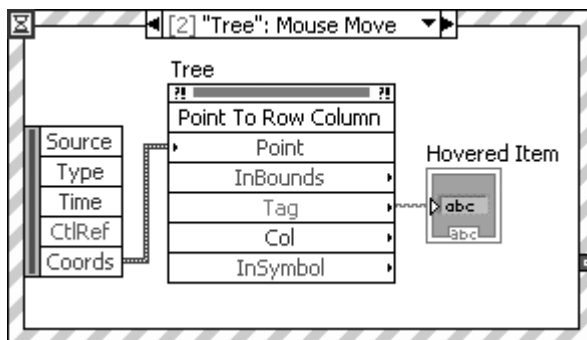

Figure 13.141
5. Add an event for the Tree control's **Mouse Move** event, as shown in Figure 13.141. Build this case, in the same way as the **Mouse Down** case. Wire the Tag output to the **Hovered Item** indicator terminal.